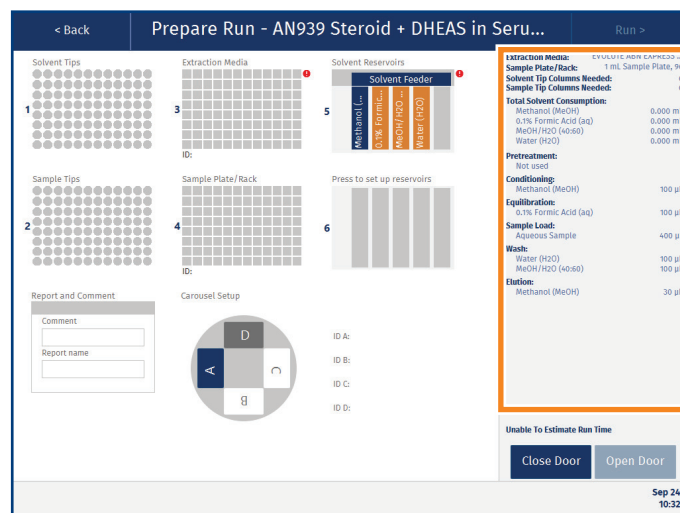

Figure 35. The run checklist in the Prepare Run view. The information is updated when the setup is changed.
10. Load an extraction plate or column rack into position **3** on the working area. Ensure that the correct type of plate/rack is used; see the run checklist in the **Prepare Run** view (see Figure 35).
- Load the DFE column tips into a pipette rack. Ensure that the correct type of DFE column tip is used; see the run checklist in the **Prepare Run** view (see Figure 35 on page 20).
18. Ensure that the solvent bottles (S1-S5) contain the necessary amount of the solvents needed for the run; see **Total Solvent Consumption** in the run checklist in the **Prepare Run** view (see Figure 35 on page 20).